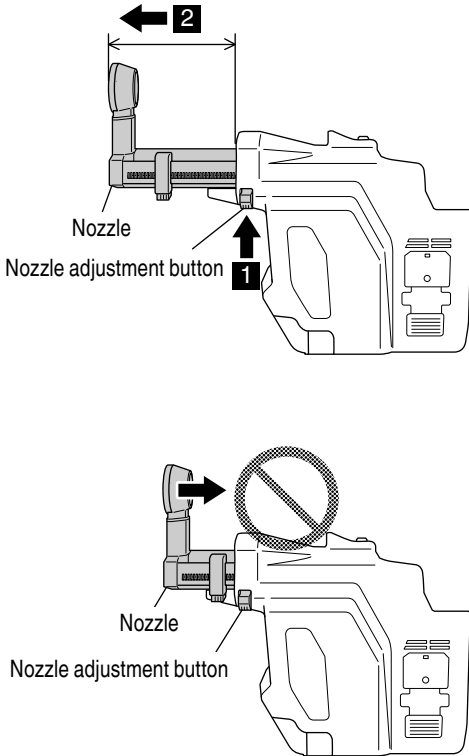

Fig. 22
- When storing the dust extractor system, press the nozzle adjustment button to put the nozzle in the fully extended position. Keeping the nozzle contracted inside the dust extractor system may result in its pressing force becoming weaker. (Fig. 22)